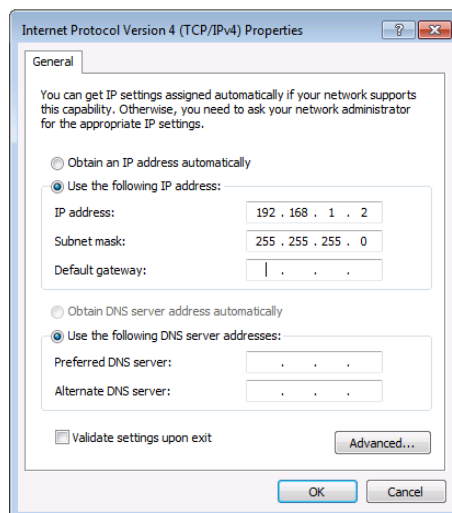

Figure 13: Internet Protocol Properties Window
6. Select **Use the following IP Address** for static IP addressing and fill in the details as shown in Figure 13.